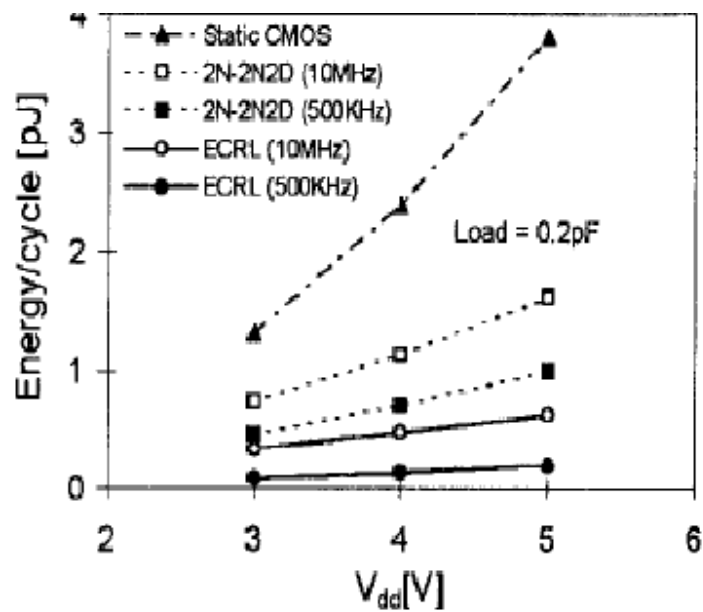

Fig. 5. Energy vs. supply voltage
transition. As shown in Fig. 5, computing energy is reduced for all types of logic as the supply voltage decreases. ECRL maintains a relative energy gain at scaled supply voltages. Energy dissipation varies as the threshold voltage changes. Lowering the threshold voltage helps the adiabatic circuits as is already shown by the energy loss equations (1) and (2). In contrast to adiabatic circuits, a static circuit consumes
slightly more energy because of the increased crossbar current. The simulation results of the inverter chain for the effect of different threshold voltages indicate this trend as shown in fig. A plot of energy per addition for ECRL CLA is drawn in Fig.5. The relative energy gain is significant with the same throughput as a static CMOS. This result shows the beneficial use of ECRL in real applications. ECRL reduces the power dissipation of the 16-b CLA by about 4-6 times over a